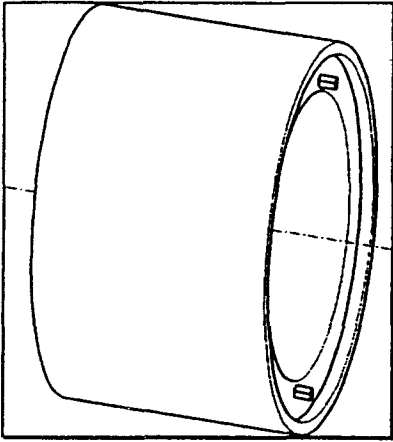

Fig.9
**#14020418 Spacer for universal flange (Fig.9).**